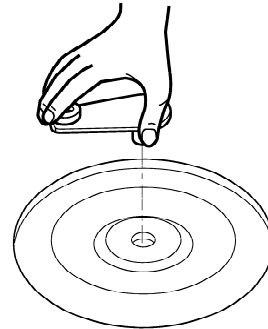

Figure 19
- (1) Remove the glass tray and Hub.
- (2) Remove the turntable shaft **VERY CAREFULLY** with a hand. (Figure 19)